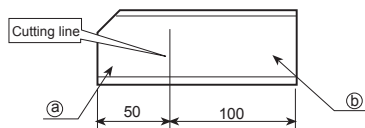

Fig. 4
- (1) Ornament panel can be mounted on ceiling as high as 3 m.
- (2) Please install pad as accessory.
- ① Cut open the pad along cutting line. Use part (a) only and discard part (b). (Refer to Fig. 4)